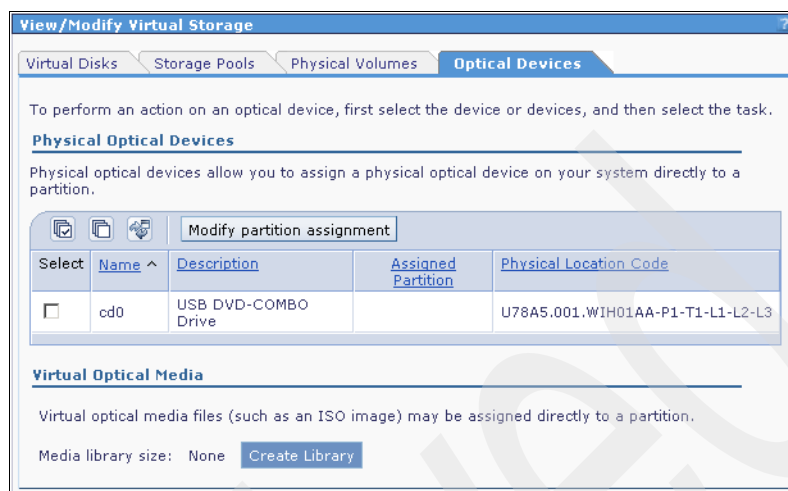

Figure 4-4 Media library - create library
4. Click **Create Library**. See Figure 4-4.